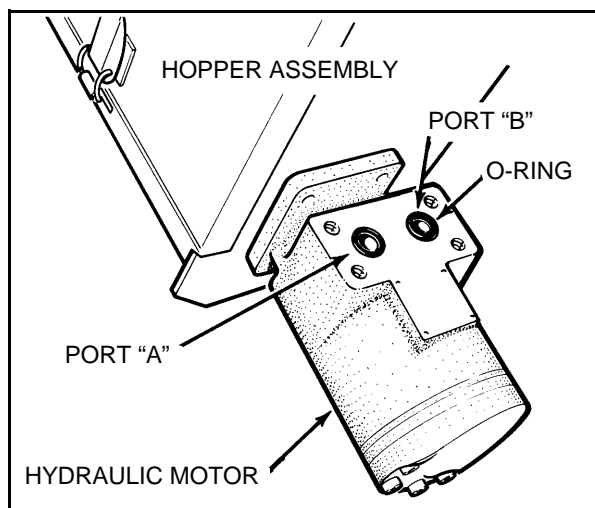

Figure 3.8 Hopper Assembly
3. Position solenoid with side marked "P" or "IN" over "Port A" on hydraulic motor and secure solenoid with four 5/16" x 2-3/4" bolts (Figure 3.8 and 3.9).